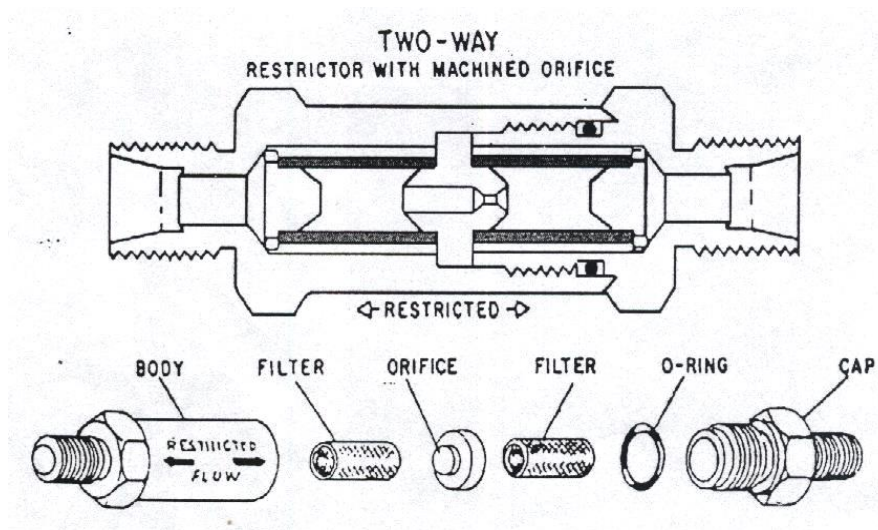

Fig. 1.1. Exploded pictorial drawings
- I. Drawing Board:** - Drawing board is used for fixing the drawing sheet by means of a tape as shown in Fig. 1.1. Its surface should be perfectly smooth. Drawing boards are available in different sizes in the market. As per IS 1444:1989 the sizes of drawing boards are given in Table 1.1